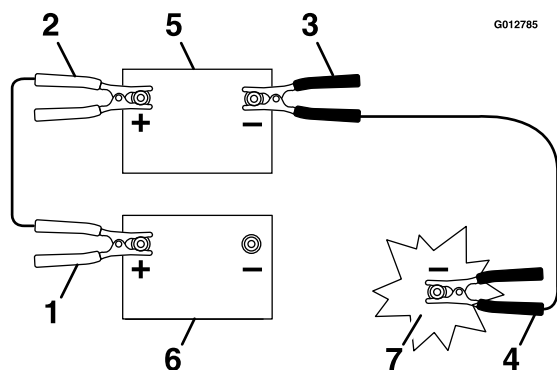

Figure 16
3. Connect the positive (+) cable to the positive (+) terminal of the discharged battery that is wired to the starter or solenoid as shown in Figure 16.